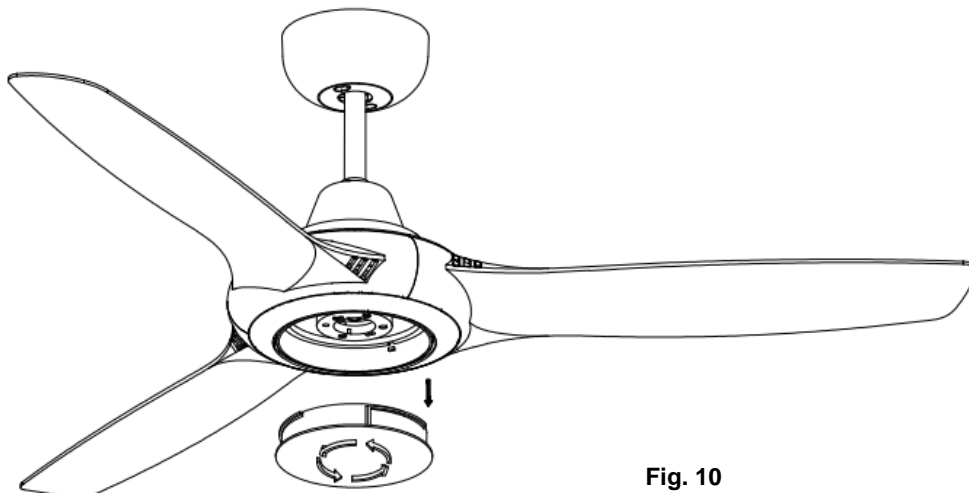

Fig. 10
- If lamp (Not included) is required, remove the bottom cover from the fan assembly by turning counterclockwise. (Fig. 10)